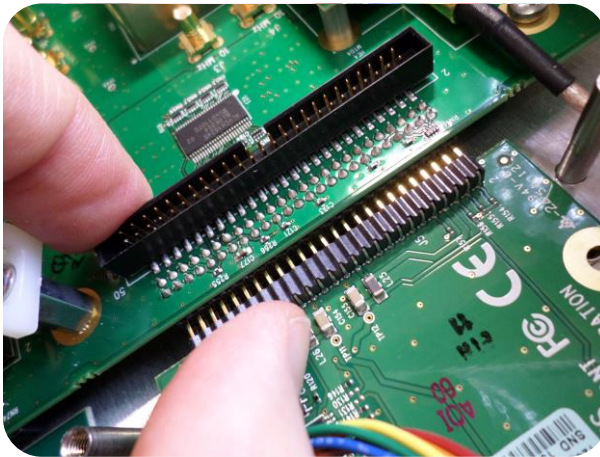

Figure 2: Connector installation
- (c) Insert the card into the bottom slot by carefully pressing its connector into the mainboard connector (see *Figure 2*), and lining up the screw holes on the card with the chassis.